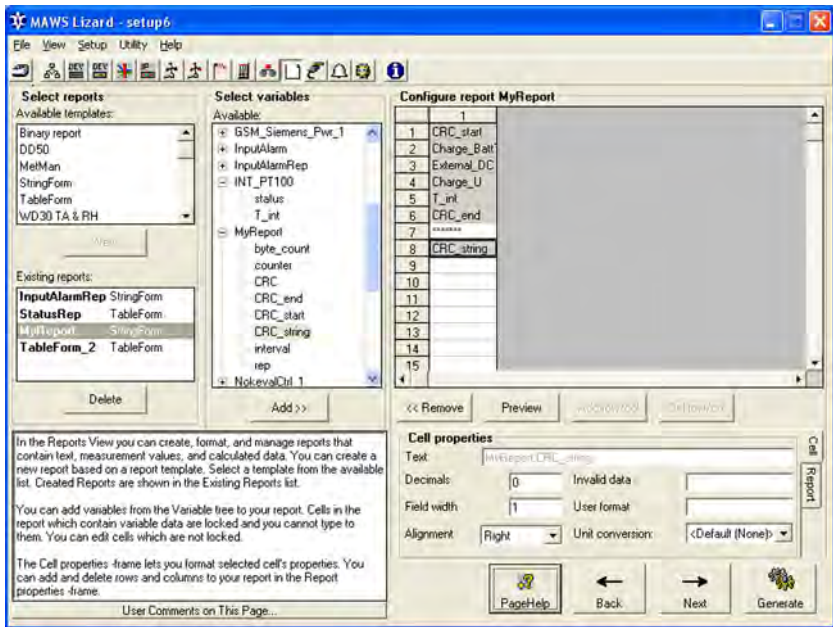

Figure 106 Reports View: Adding CRC
- 1. Go to the **Reports** view as shown in Figure 106 on page 205.